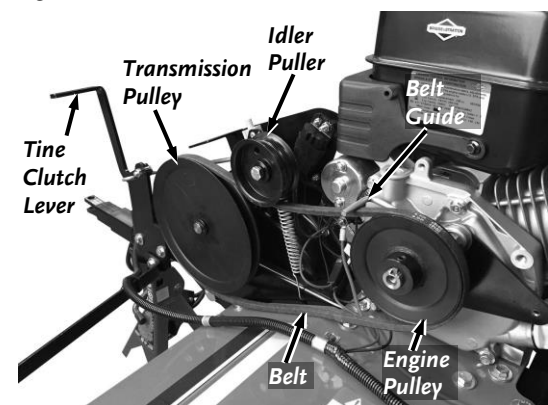

Figure 24
- Do not move or remove the belt guide (**Figure 24**). If you accidentally alter the position of the belt guide, return it to the correct setting of 6-1/4" vertical inches from the fender to the bottom of guide.
3. Remove the worn Belt from the Engine Pulley and Transmission Pulley (**Figure 24**).